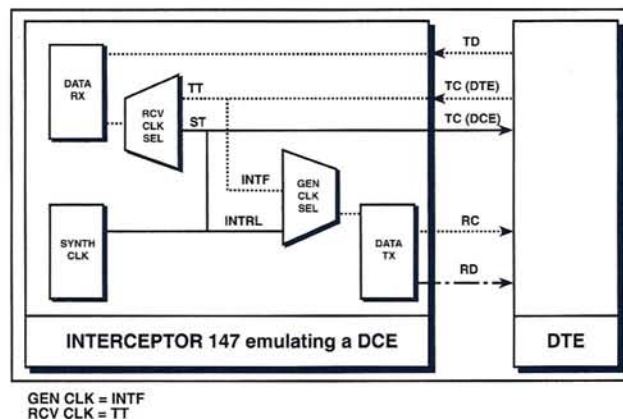

Figure 3
The Receive Clock Select (Rcv Clk Sel) function has two timing functions, Transmit Timing (TT) and Send Timing (ST). When emulating DCE, the TT signal from the DTE (see **Figure 3**) is normally used; if TT is not active, then ST is used. In ST mode, the INTERCEPTOR 147 generates its own internal clock, uses this clock to time received data, and transmits it to the DTE on the Transmit Signal Element Timing (TC) lead; the INTERCEPTOR 147 receives the clock from the DTE on the Transmit Timing lead, and uses it to time its received data.
Figure 3 shows the Generator Clock and Receive Clock configurations on the INTERCEPTOR 147.